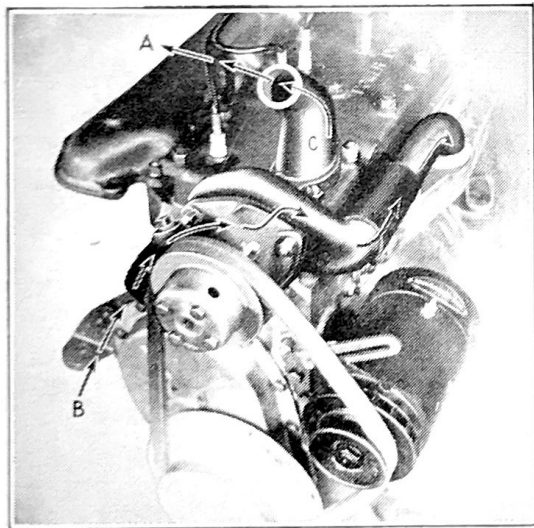

Figure 25
Models 10T, 10P, 10C, 11, 12, 14, 18P and 18C use the choke type thermostat which is located in outlet (C), Fig. 25, and prevents circulation of the coolant through the radiator core until such time as the water reaches a temperature of 150° to 155°, when the thermostat begins to open. At 185° the thermostat should be fully opened. The path of water circulation is illustrated in Fig. 25.